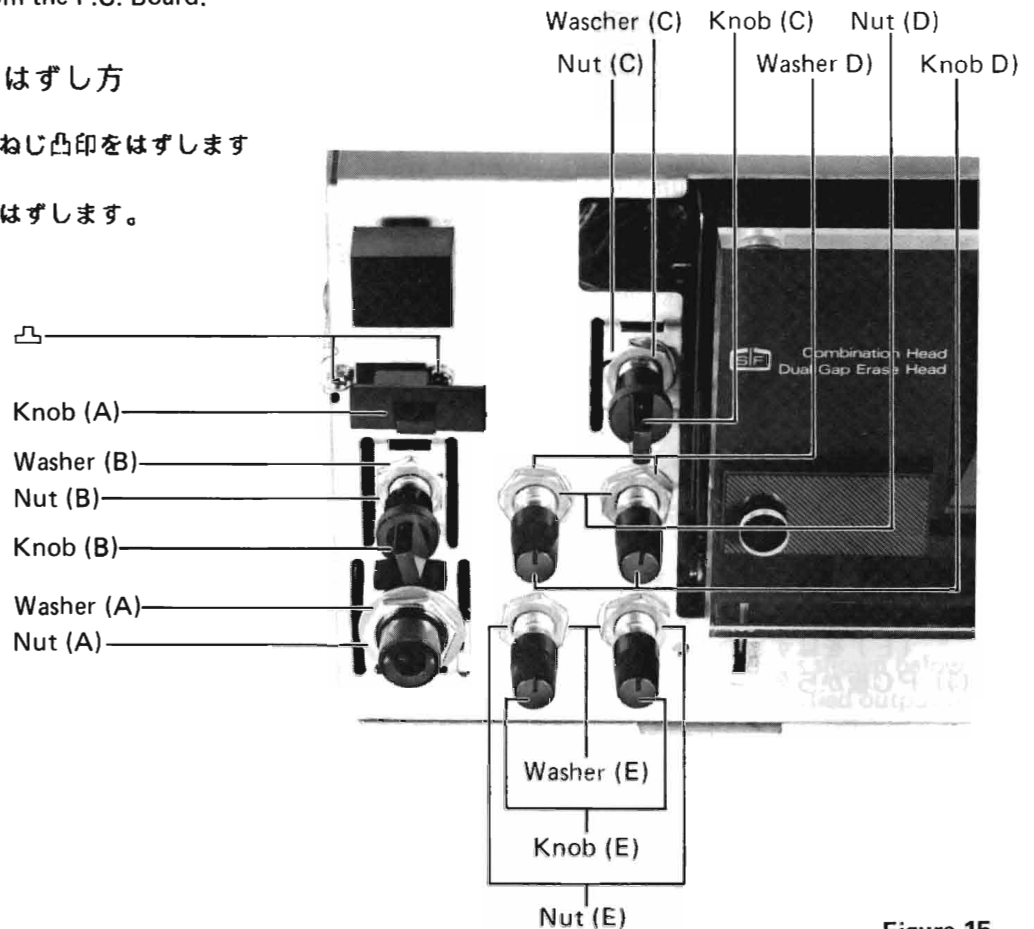

Figure 15
- (1) After removal of Front Panel, remove knob (A) and remove two screws marked "凸" as shown in Figure 15.
- (2) Disconnect all connectors from the P.C. Board.
- (1) After removal of front panel, remove two rotary knobs (B), (C) as shown in Figure 15.
- (2) Remove two nuts (B), (C) and two washer (B), (C) as shown in Figure 15.
- (3) Disconnect all connectors from the P.C. Board.
- (1) After removal of front panel, remove the nut (A) and washer (A) as shown in Figure 15.
- (1) After removal of front panel, remove four knobs (D), (E) as shown in Figure 15.
- (2) Remove four nuts (D), (E) and four washers (D), (E) as shown in Figure 15.
- (3) Disconnect all connectors from the P.C. Boards.